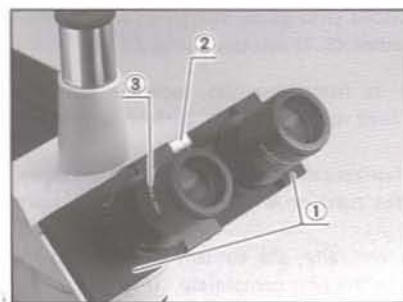

Fig. 10
Hold the knurled sliding grips ① of the right and left eyepiece sleeves with both hands and push the tubes together or pull them apart laterally while looking through the eyepieces with both eyes, until perfect binocular vision is obtained. If you know your interpupillary distance setting, set it at the scale ② between the eyepiece sleeves. (Fig. 10)
Look at the image through the right eyepiece with your right eye and focus on the specimen with the focus knobs. Next, looking at the image through the left eyepiece with your left eye, rotate the diopter adjustment ring ③ to focus on the specimen without using the focus knobs. (Fig. 10)